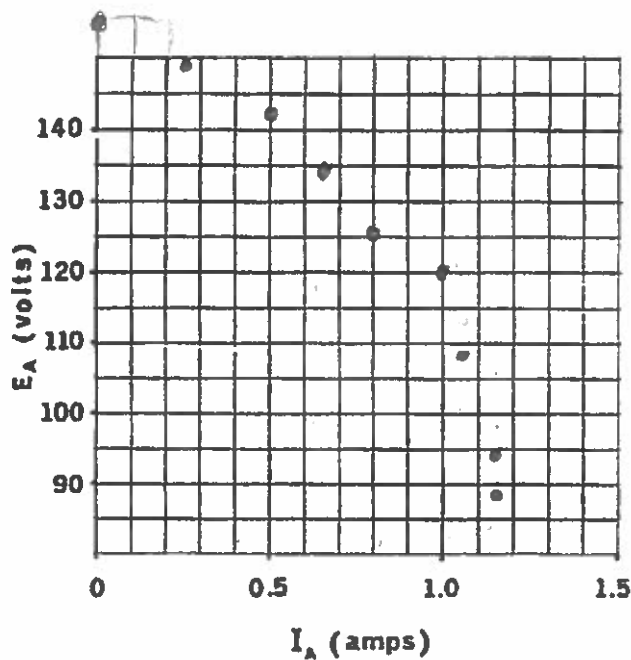

Figure 28-3.
4. Plot the E_A vs I_A regulation curve on the graph of Figure 28-3.